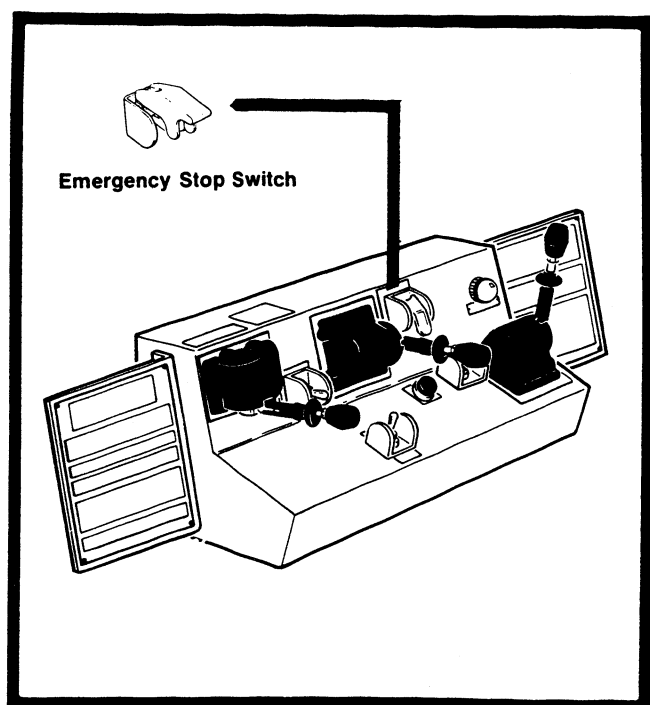

Figure 3-2. Platform Control Station.
b. PLATFORM STATION. (Figure 3-2.)